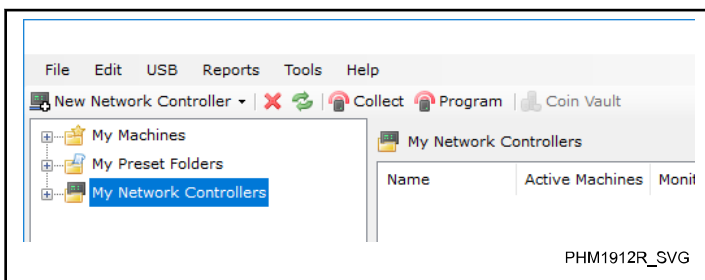

Figure 86
a. In the tree structure, click **My Network Controllers**. Refer to *Figure 86*.